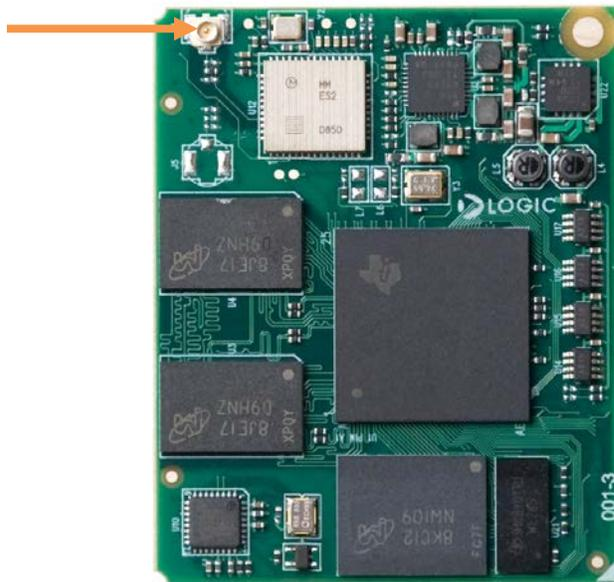

Figure 4.2: Antenna Connector Location on AM3517 SOM-M2
2. Connect the antenna to the SOM-M2 reference designator J4 for 802.11 Ethernet and Bluetooth reception. See Figure 4.2 for the antenna connector location on the top of the AM3517 SOM-M2.